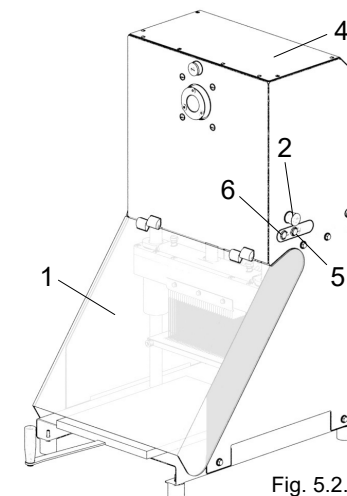

Fig. 5.2.1
- 1 - With the machine running, open the front panel "1" Fig. 5.2.1. The machine must stop instantly.
- 2 - With the machine running, press the mushroom-head emergency button "2" Fig 5.2.1.
- 3 - Check that the stainless steel casing "4" Fig 5.2.1 is intact and rigidly fastened.
With the machine connected to the mains electricity and the accessory tool moving, press the OFF button (Ref. 5 Fig. 5.2.1). The blade pack must return to its initial position and the machine must stop.
To start the machine, simply press the ON button (Ref. 6 Fig. 5.2.1). Start the machine only after properly connecting the plug to the mains power supply.
To stop the machine, simply press the OFF button (Ref. 5 Fig. 5.2.1). The blade pack will return to its initial position and the machine will stop.